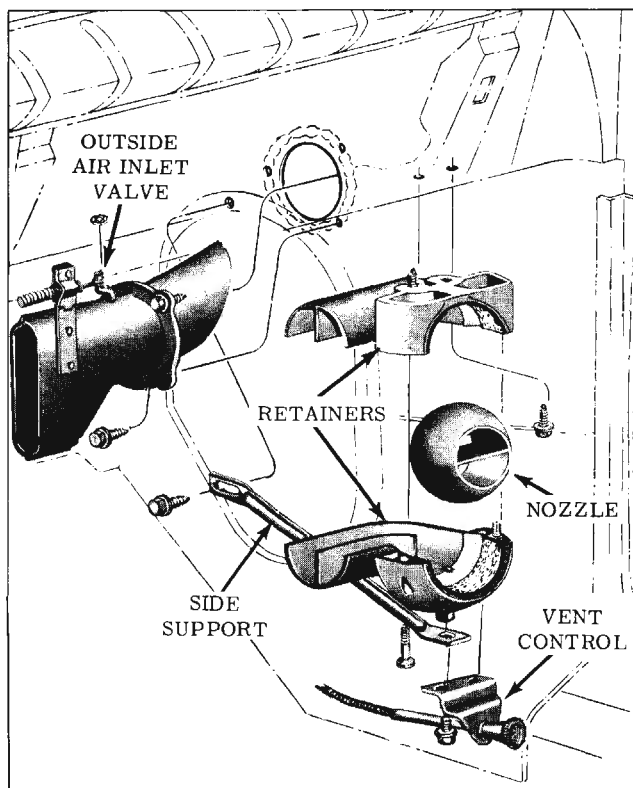

Fig. 15-123 Air Outlet and Outside Air Inlet Valve
1. Remove ventilation control knob to lower outlet retainer attaching screws. (Fig. 15-123)
3. Remove "springrip" washer and disconnect outside air inlet valve control cable. (Fig. 15-123)